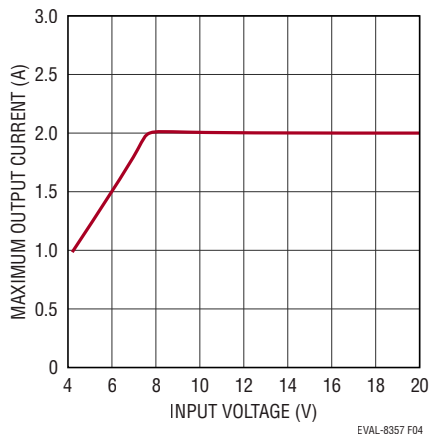

Figure 4. EVAL-LT8357-AZ Steady State Maximum Output Current vs Input Voltage
Evaluation circuit EVAL-LT8357-AZ features the **LT®8357** as a 200kHz low EMI and low I_Q boost controller with a 24V output from 4.5V to 20V input. This evaluation circuit features Spread Spectrum Frequency Modulation (SSFM) and EMI filters to provide optimum EMI performance. The board also contains placeholders and an outline to attach clips for an optional EMI Shield attachment. This application circuit can output 2A (see Figure 4 Maximum Output Current vs V_{IN} curve). When placed in shutdown, the converter has very low quiescent current, ideal in automotive and other battery-powered applications. PULSE SKIP and BURST modes are selectable with jumper JP1. Each user-selectable option enables low quiescent current at light load and can also be combined with SSFM operation using JP1.
*Please see Figure 4 and Output Voltage and Power section for more details.
The peak switch current limit is 15A, allowing for 2A operation throughout the entire V_{IN} range. However, thermal limitations of some components limit full 2A DC operation below 8V. See Figure 4 to see the full DC operation maximum output current versus V_{IN} . 2A load with transient operation down to 4.5V is allowed. The output ferrite bead limits output current to 2A maximum.